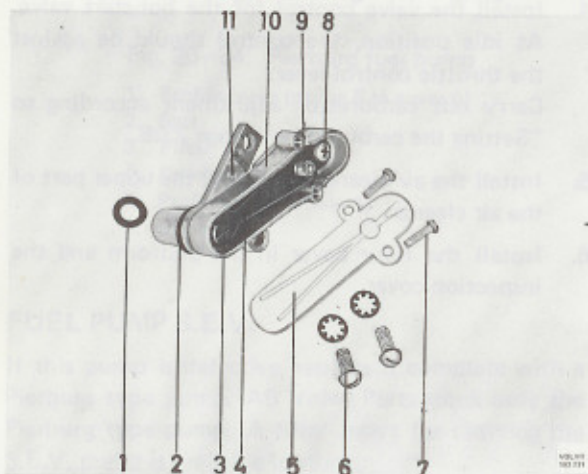

Fig. 23-30. Temperature compensator
The temperature compensator is replaced complete. It is removed from the carburettor by unscrewing the screws (6, Fig. 23-30). Take out the old seal (1) from the carburettor and fit a new one. Place a new seal (2) on the temperature compensator and fit the compensator. The temperature compensator is marked "60" (11).